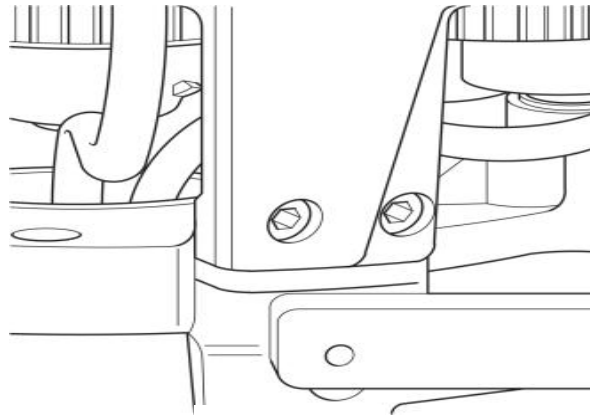

Figure 18
- (3) The tap selector is fitted with a suitable lifting device.
(4) Raise the tap selector below the diverter switch oil compartment.
(5) Align the position of the two coupling members, and the bearing on the tap selector should be aligned with the hole in the base of the oil chamber.
(6) Raise the tap selector to the appropriate height.
(7) Connect the tap selector to the oil chamber base with the six M12 bolts and nuts removed from the front. The tightening torque is 60 Nm (Fig. 18).